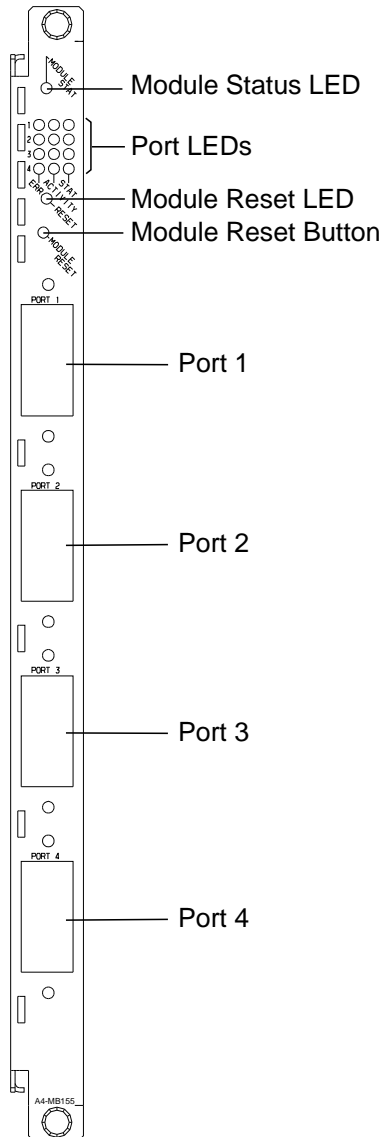

Figure 4. 155 Mbps Module Front Panel
Refer to Figure 4 when installing and configuring the 155 Mbps module.
- The port and module LEDs on the module faceplate (see Figure 4 on page 17)